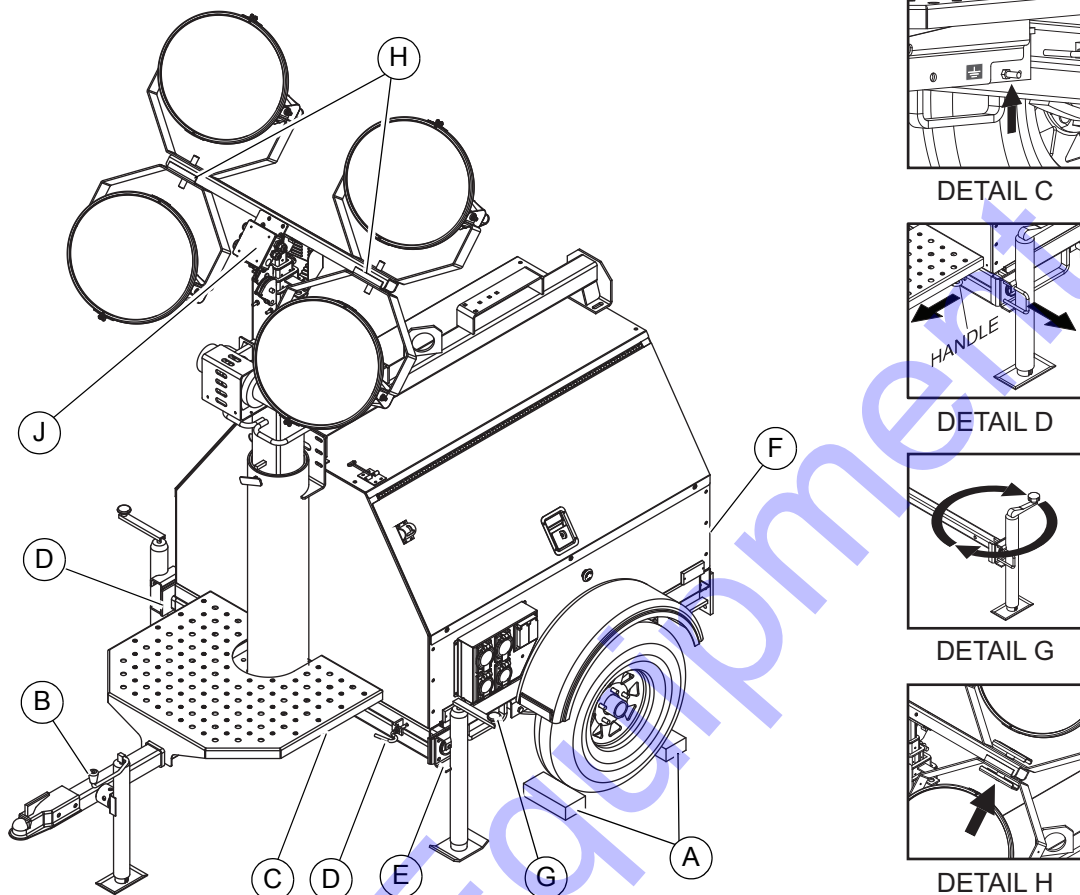

Figure 3-1. Set Up Outriggers and Jacks
2. See **Figure 3-1**. Place the unit on firm ground that is relatively flat (less than 5° slope), and then block the wheels to keep it from moving (A). This will make it easier to level the unit.
3. Pull the locking pin on the tongue jack (B) and rotate the jack 90°. Reinstall the locking pin. Rotate the jack handle clockwise to raise the trailer tongue off the towing vehicle.
4. A grounding stud (C) is located on the frame of the trailer near the trailer tongue. For grounding requirements, follow the National Electrical Code (NEC), state, and local regulations.
5. Pull the locking pins (D) on the outriggers (E) and pull each outrigger out until the spring loaded locking pin snaps back into place. Pull the locking pin on each outrigger jack and rotate each jack 90° so the jack pad is facing down and the spring loaded locking pin snaps back into place.
6. Pull the locking pin on the rear jack (F) and rotate it 90° until the spring loaded pin snaps back into
- 7. Rotate each jack handle clockwise to start leveling the trailer. Adjust all four jacks by rotating their handles clockwise until they are firmly in contact with the ground (G).
- 8. Before raising the mast, it may be necessary to adjust the lamps. The lamps may be adjusted up, down, left or right by loosening the wing nuts on the trunnion (H) and aiming the lamps in the desired direction. Tighten the hardware completely and make sure the lamps are connected to the junction box (J).